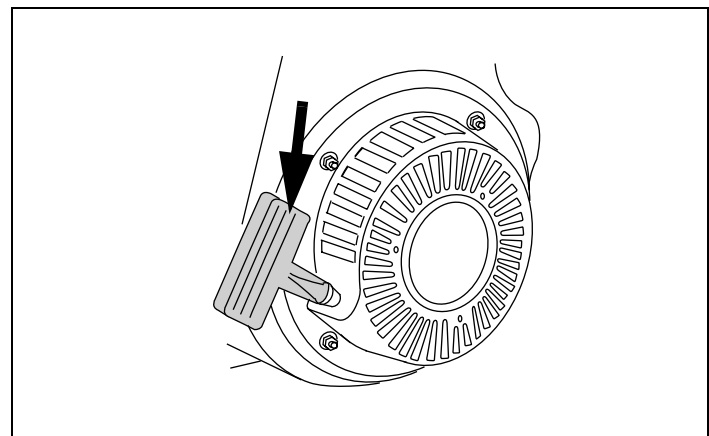

Figure 28. Starter Cord Handle
5. Grasp starter cord handle. See Figure 28.